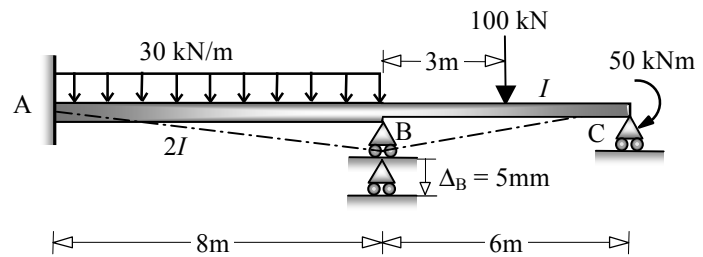

Fig. 8
6. Analyse the two-span continuous beam shown in Fig. 8 by any matrix method of your choice (stiffness or flexibility) and draw the bending moment diagram. Assume $EI = 27000 \text{ kNm}^2$.